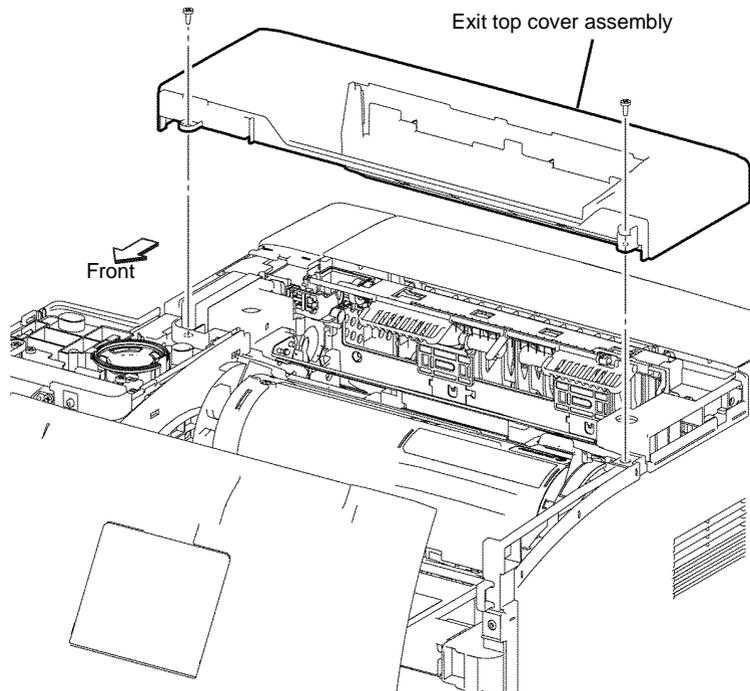

Figure 1 Exit top cover assembly removal
7. Remove two screws (silver, tapping, 8mm), then remove the exit top cover assembly, Figure 1.